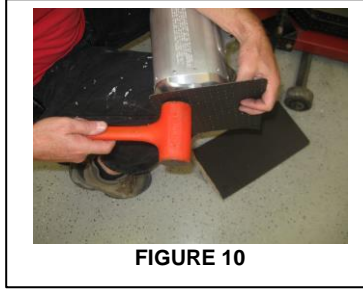

FIGURE 10
15. Lightly tap everything together with a rubber mallet and use a piece of cardboard or similar material to protect the finish on the end cap. **FIGURE 10**